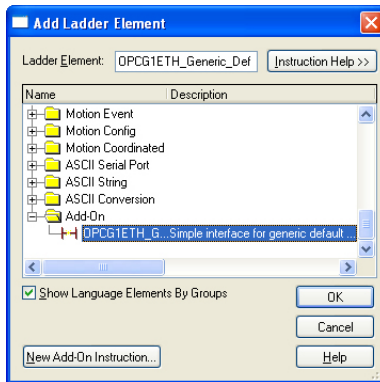

Figure 88: Add Generic Default Add-On Instruction
- 8) Select the generic default I/O add-on instruction in the Add-On folder. Refer to Figure 88.